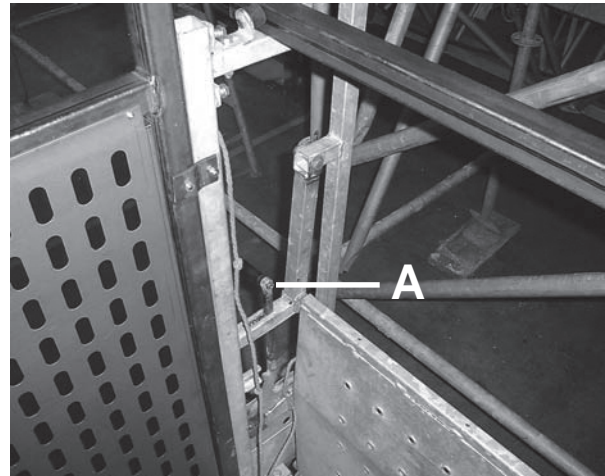

Fig. 7-13-3 Opening the transfer plate
- Push the sliding lock backwards to unlock the transfer plate (fig.7-13-3, A).